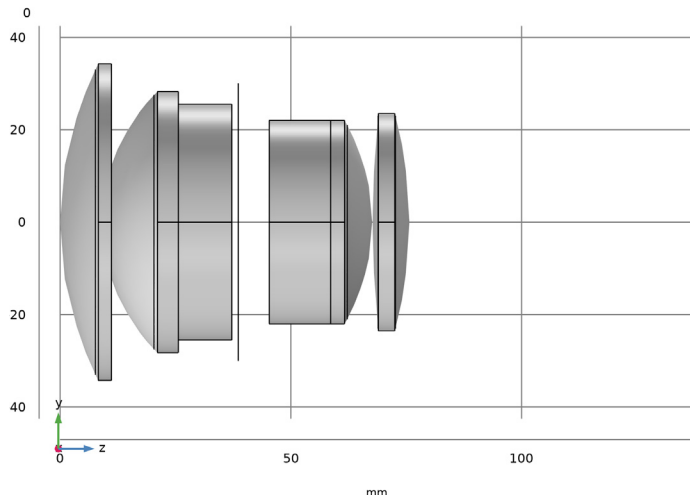
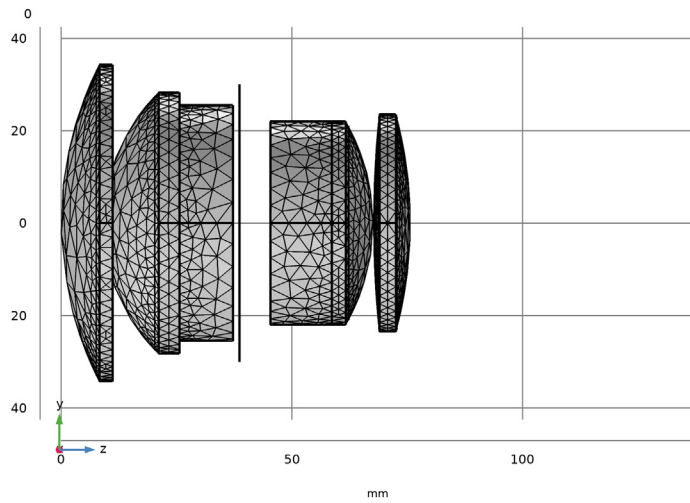

Figure 2: The double Gauss lens geometry sequence.
Figure 3: The default Physics-controlled mesh for the double Gauss lens.
important to appreciate that the ray tracing method used by the Geometrical Optics interface is inherently nonsequential, so the same result could be obtained by placing part instances within the geometry in any order. The double Gauss lens geometry sequence is shown in Figure 2 and the default, Physics-controlled mesh, is seen in Figure 3.
- 7 Click the  **Go to ZY View** button in the **Graphics** toolbar. Orient the view to place the z-axis (optical axis) horizontal and the y-axis vertical. Compare the resulting geometry to Figure 2.